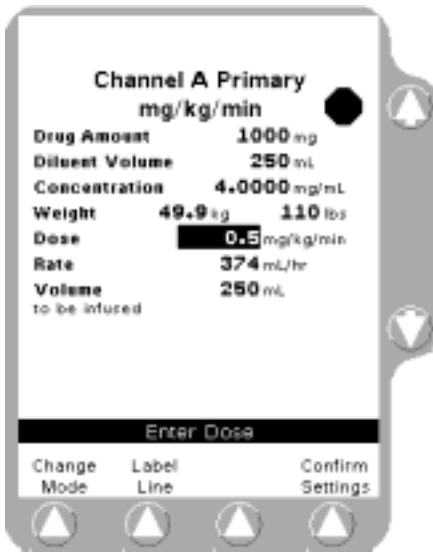

Figure 5-22 Confirm Settings
7. After completing all required entries, verify that all displayed values are appropriate and press the **Confirm Settings** soft key (Figure 5-22).